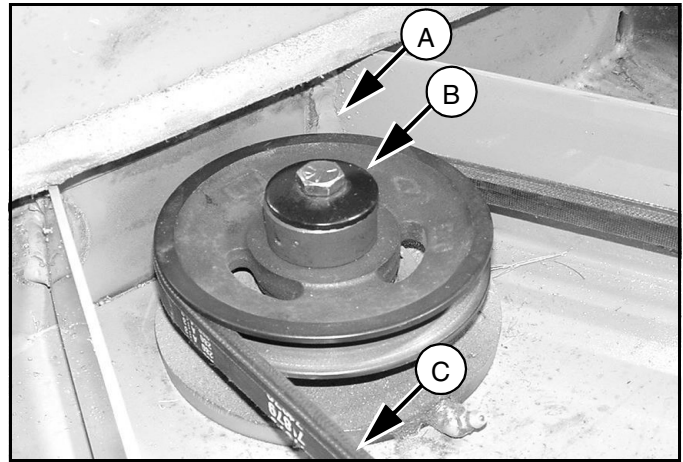

Figure 5. Right spindle assembly
3. Remove top bolt (A), cupped washer (B), spacer, belt (C) and sheave key from the right spindle assembly. See Figure 5.